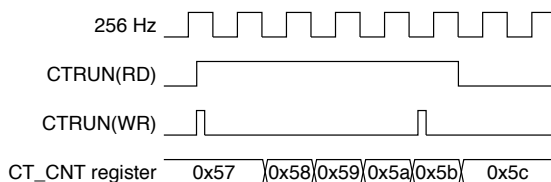

Figure 11.4.2 Run/Stop Control Timing Chart
- The clock timer switches to Run/Stop status synchronized with the 256 Hz signal falling edge after data is written to CTRUN. When 0 is written to CTRUN, the timer stops after counting an additional "+1." 1 is retained for CTRUN reading until the timer actually stops. Figure 11.4.2 shows the Run/Stop control timing chart.